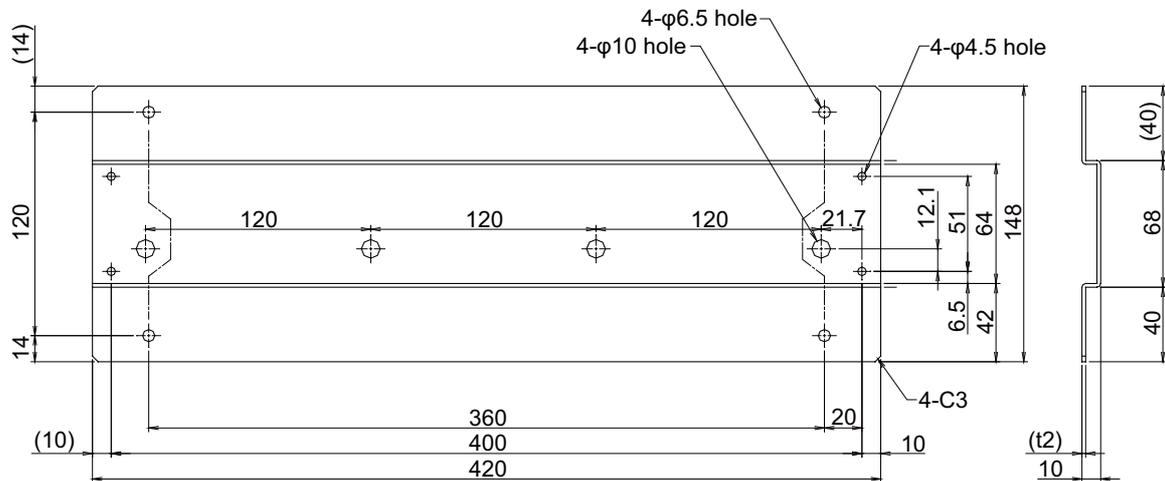

Fig.3-4: Reference figure of the fixing metal plate for vertical installation
**CAUTION** Fixing installation section sure for prevention from the fall, when using the controller placing vertically. The reference figure of the metal plate for fixing is shown in Fig. 3-4.